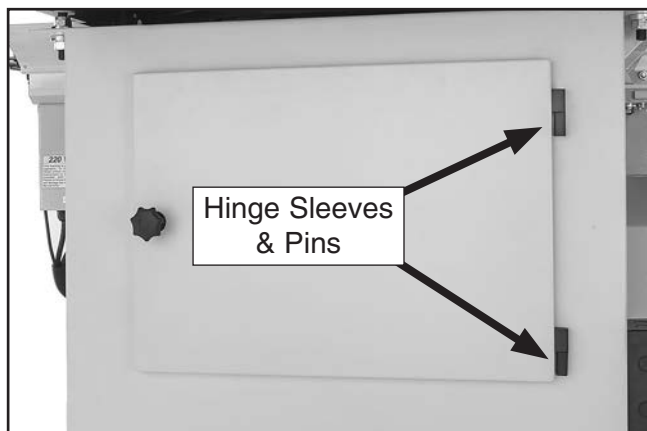

Figure 22. Cabinet door attached on hinges.
6. Attach the cabinet door by sliding hinge sleeves over pins of already attached hinge (see **Figure 22**).